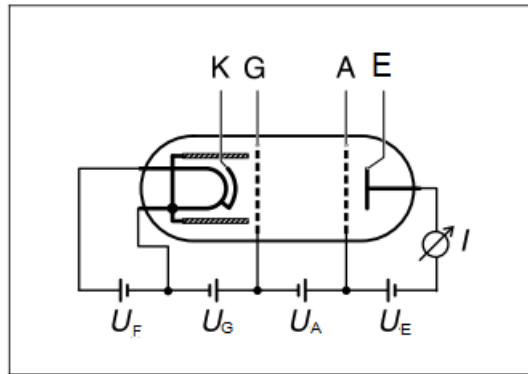

Fig. 2 Schematic diagram of a Frank-Hertz tube with Ne.
An evacuated glass tube is filled with neon. The glass tube contains a planar system of four electrodes (see Fig. 2). The grid-type control electrode G is placed in close proximity to the cathode K; the acceleration grid A is set up at a somewhat greater distance, and the collector electrode E is set up next to it. To prevent a potential differential along K, the cathode is heated independently by applying a voltage of  $U_F$ . The heated electrode emits electrons to form a charge cloud. These electrons are attracted by the driving potential  $U_G$  between the cathode K and grid G. An acceleration voltage  $U_A$  is applied between grids G and A. A braking voltage  $U_E$  is present between grid A and the collector E. Only electrons with sufficient kinetic energy can reach the collector electrode and contribute to the collector current.
- 2) Connect the cables according to Fig.2 and switch on the power of the equipment.